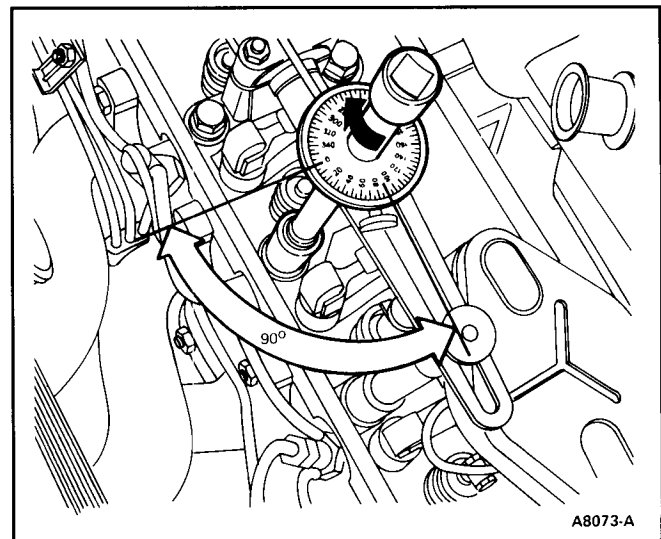

FIG. 30 Cylinder Head Bolt Tightening
- c. Using a breaker bar, tighten cylinder head bolts another quarter turn (90 ± 5 degrees) (Fig. 30).